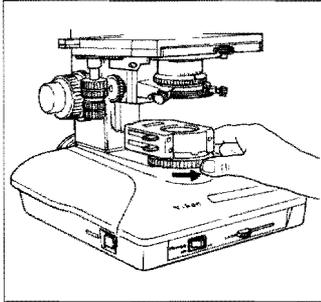

Fig. 10-1
- (1) Close the field diaphragm to its smallest size by manipulating the field diaphragm control ring. Rotate the condenser focus knob to move the condenser vertically so that a sharp image of the field diaphragm is formed on the specimen surface (Fig. 10-1, 2 and 3).